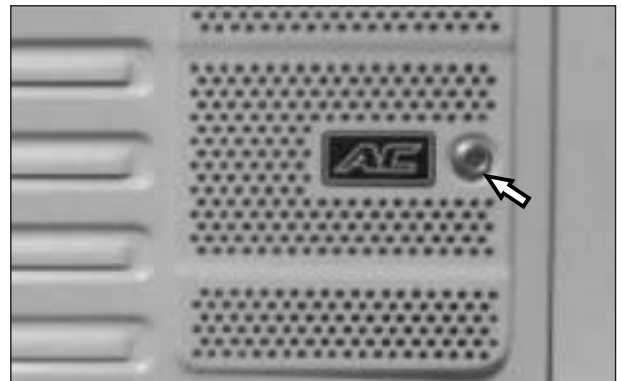

Fig. 5.106
- Close the tail door and lock it using control key. (Fig. 5.106)